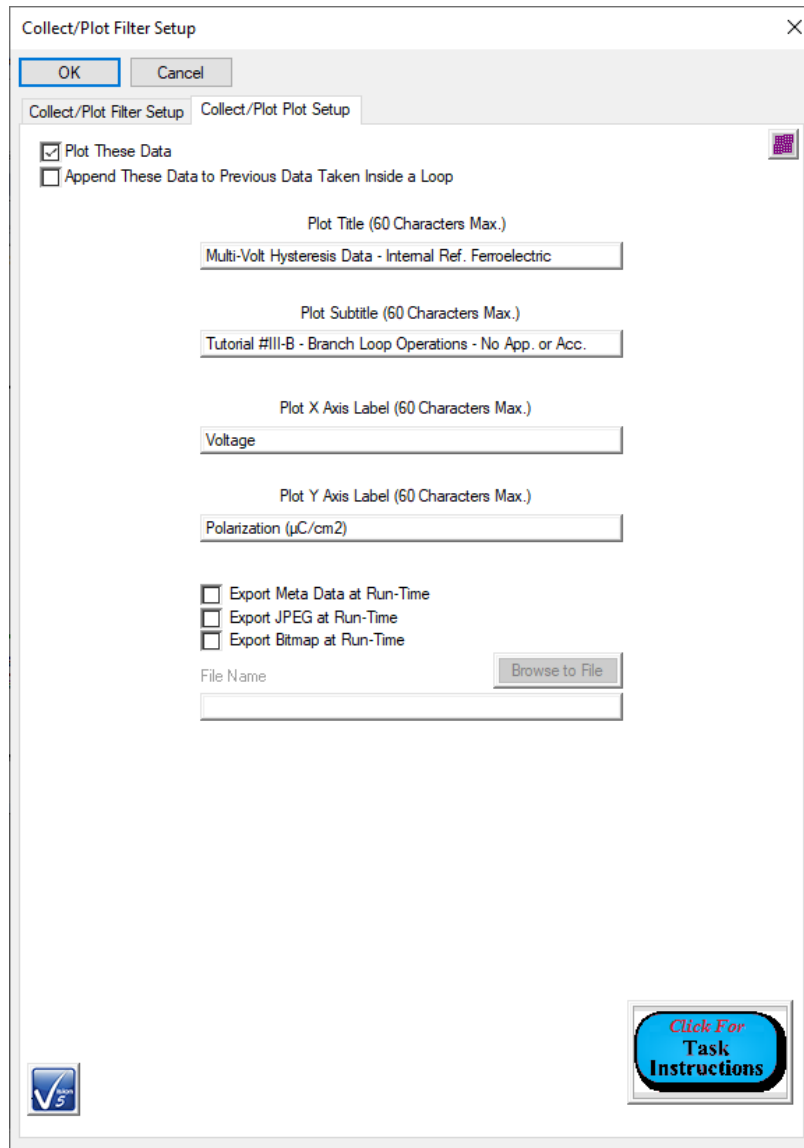
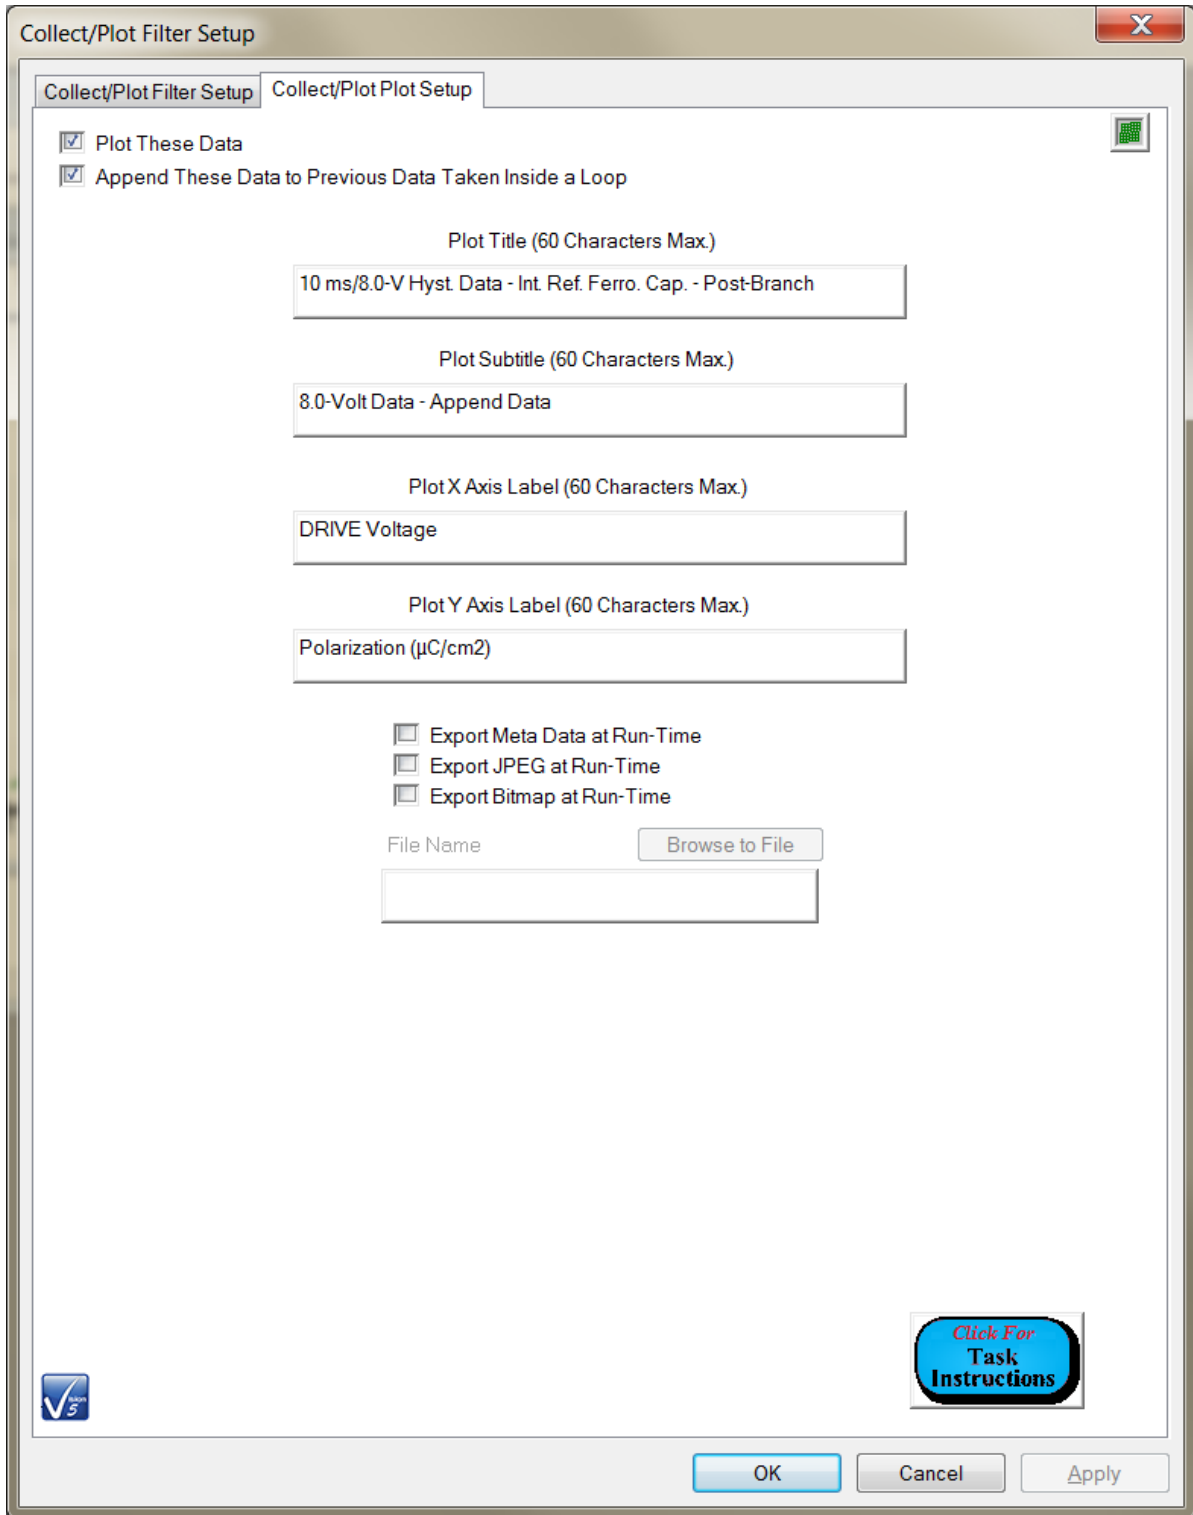

Figure 18 - Collect/Plot Post-Branch Plot Configuration.
Figure 20 - Configure the Post-Branch Collect/Plot Filter to Append Data.
4. Execute the CTD. The data appear as in **Figure 20** . Except for plot labeling the data are identical to those of **Figure 18** .